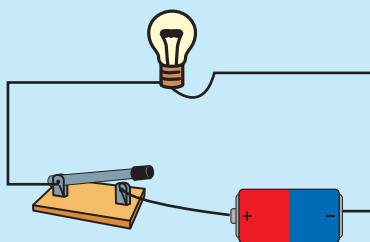

Figure 10.14 ▲
- First, connect one bulb to a cell and a switch as shown in Figure 10.14.